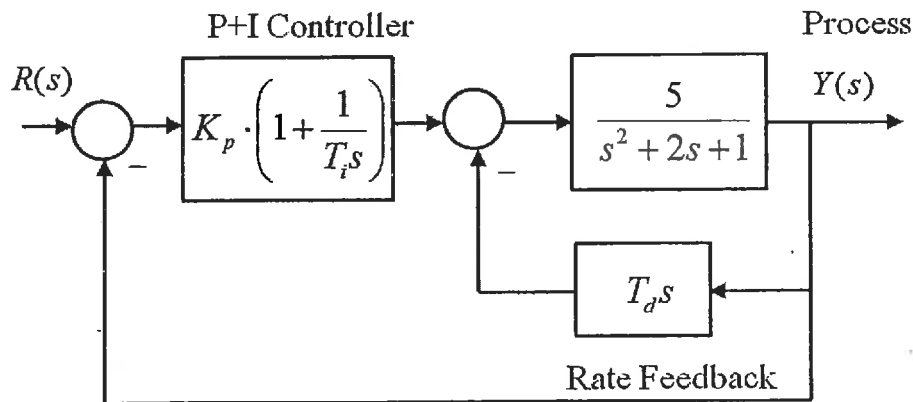

Figure Q2.1
Now consider the same system where the Controller scheme was modified to incorporate a PID Control. As shown in Figure Q2.1 below, it is implemented by placing a Proportional + Integral (PI) Controller in the forward path, and a Rate Feedback (Derivative) in an inner feedback loop.